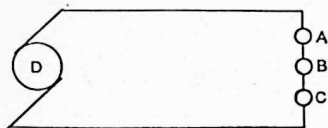

FIG. 31.
**Problem 4.** (a) If each lamp, Fig. 31, of the combination takes 1.5 ampere, how many amperes must the generator deliver?